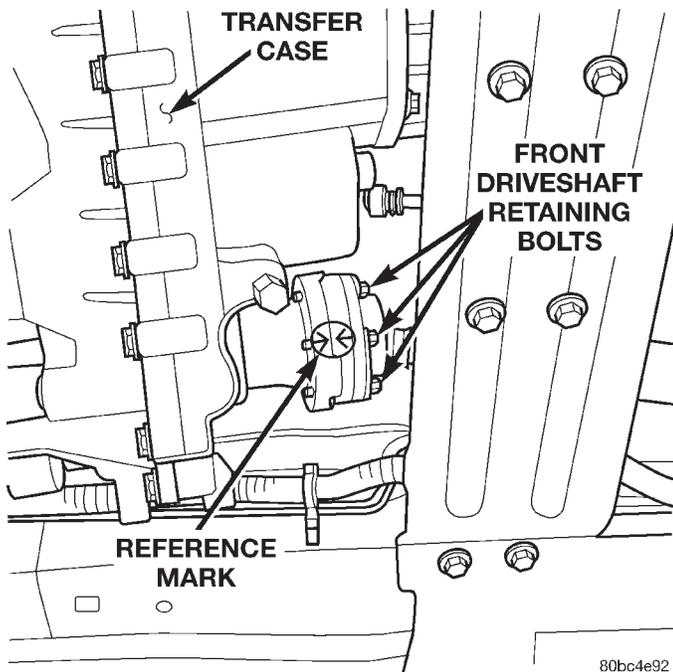

Fig. 15 Front Driveshaft Retaining Bolts
(8) Remove the front driveshaft retaining bolts (Fig. 15) and remove the driveshaft from the transfer case companion flange. Support the driveshaft with mechanics wire.